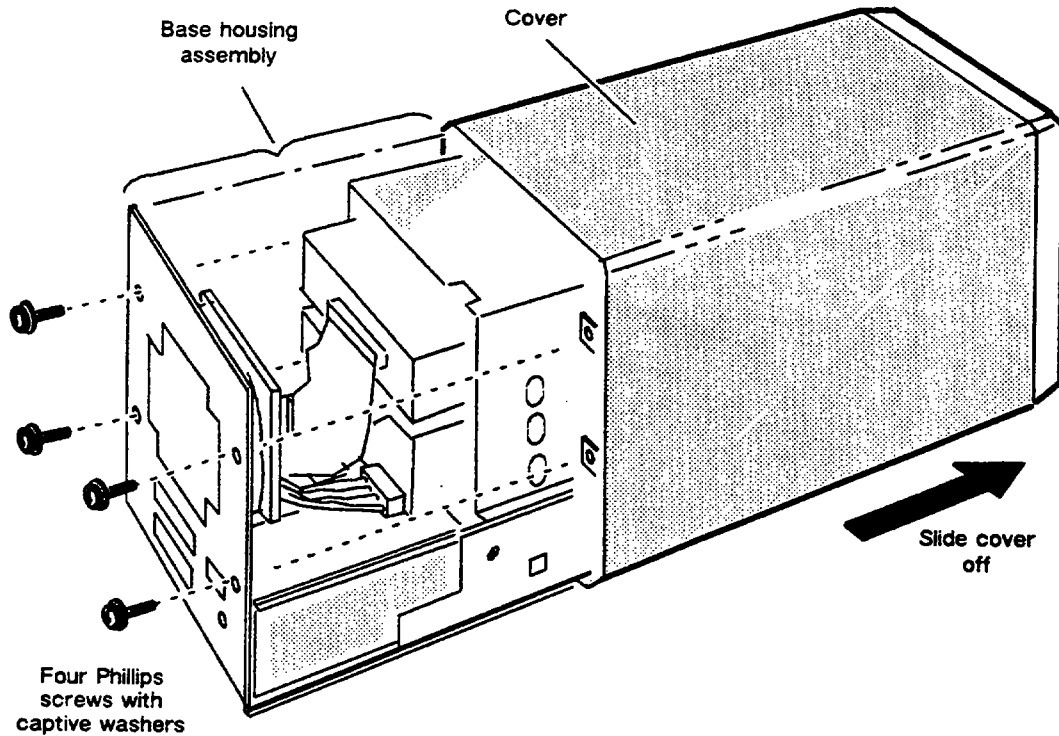

Figure 3-1 Removing the Cover from the PHU
- Using a Phillips screwdriver, remove the four Phillips screws and washers, shown in Figure 3-1, that attach the cover to the back of the PHU.